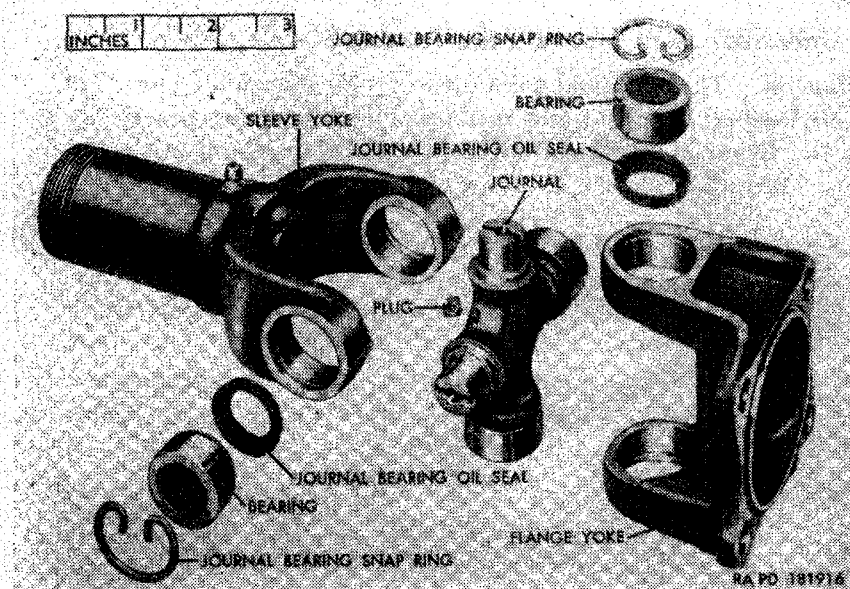

Figure 132. Rear propeller shaft front universal joint and rear propeller shaft-to-transfer flange yoke—partially exploded view.
c. Rear Propeller Shaft Universal Joints Disassembly. Remove the rear propeller shaft with universal joints (par. 203a). Procedure for disassembly of the rear universal joint of the rear propeller shaft is the same as the procedure for disassembly of the universal joints of the front propeller shaft (a(2) and (3) above). For disassembly of the front universal joint of the rear propeller shaft, refer to figure 132.